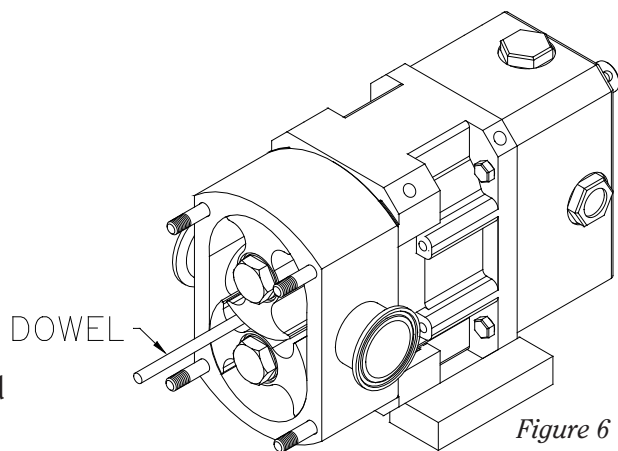

Figure 6
- d) To remove the rotors, first loosen the first rotor, place the dowel between the rotors as shown in *Figure 6*.